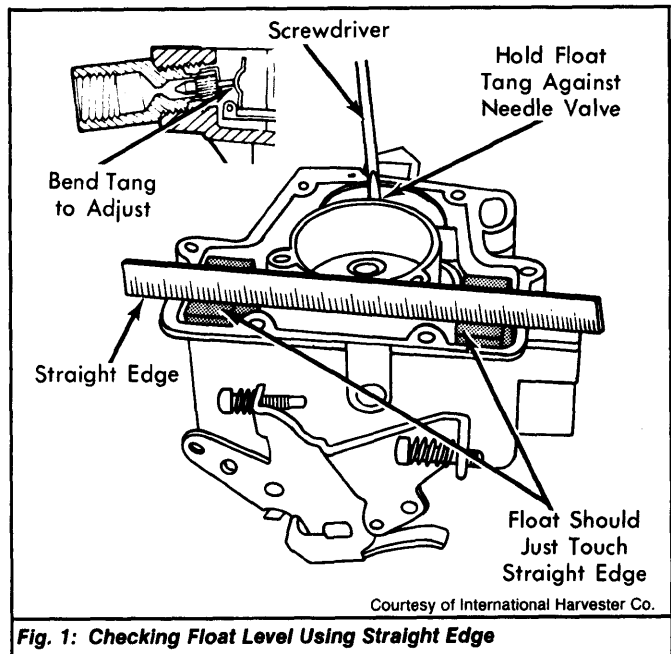

Fig. 1: Checking Float Level Using Straight Edge
2) While holding float tang against closed needle valve, top of floats should just touch bottom of straight edge. If adjustment is needed, bend float tang and recheck. See Fig. 1.